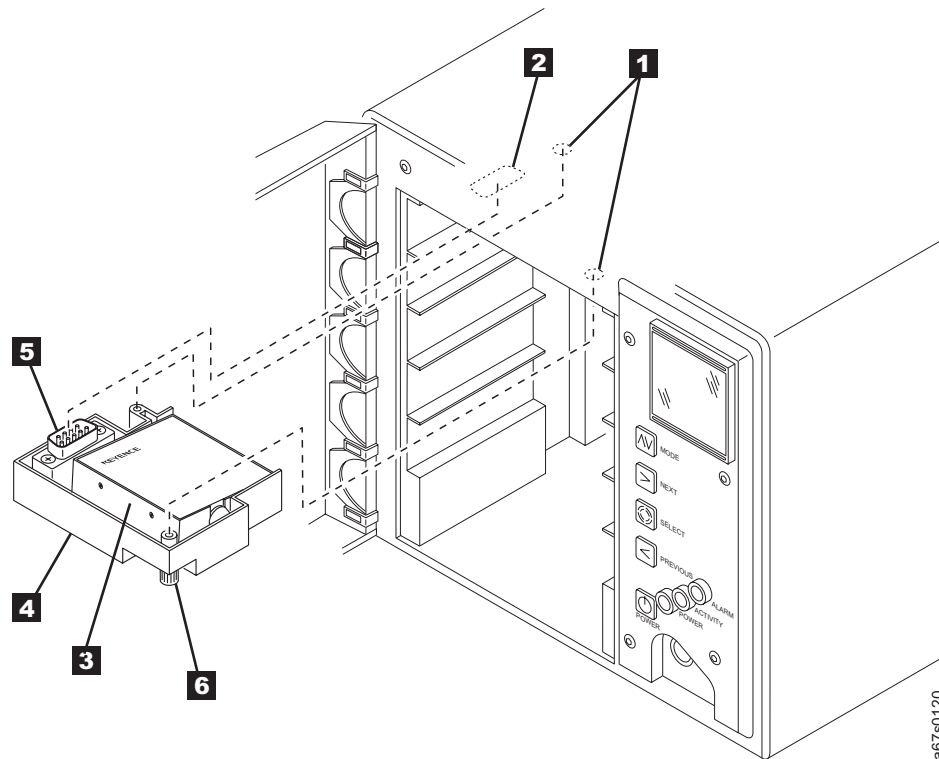

Figure 41. Installing the bar code reader
3. Referring to Figure 41 on page 111, locate the mounting hole **1** and interface connector **2** on the inside top panel of the autoloader, directly above cartridge storage slot 1.